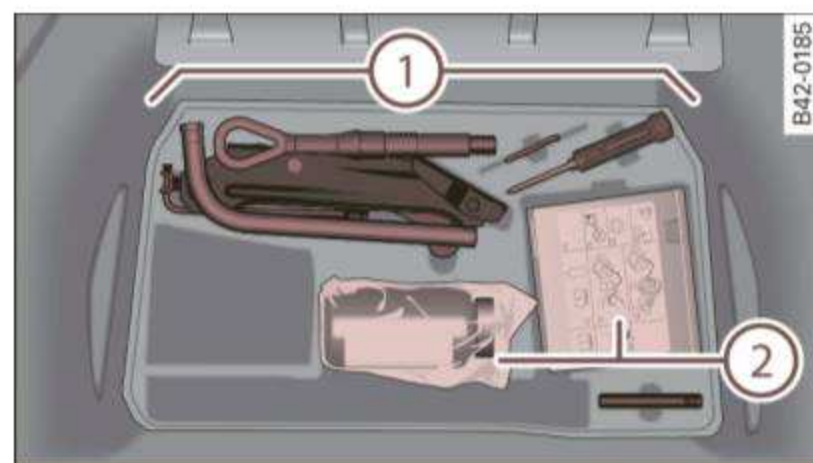

Fig. 128 Breakdown kit in luggage compartment
- Take the **sealant bottle** and the **electric air pump** from the luggage compartment under the floor ⇒ *page 236*, fig. 128.